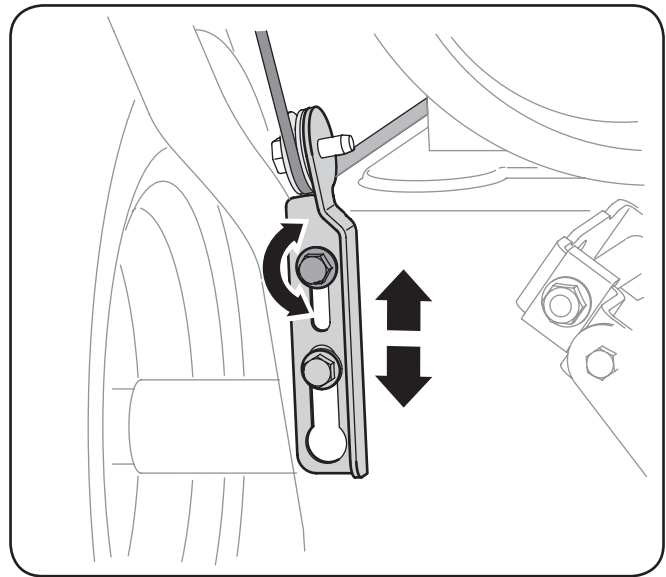

Fig. 3-15
4. Allow the auger to remain engaged for approximately ten (10) seconds before releasing the auger control. Repeat this several times.
7. To readjust the control cable, loosen the upper hex screw on the auger cable bracket. See Fig. 3-15. Position the bracket upward to provide more slack (or downward to increase cable tension).